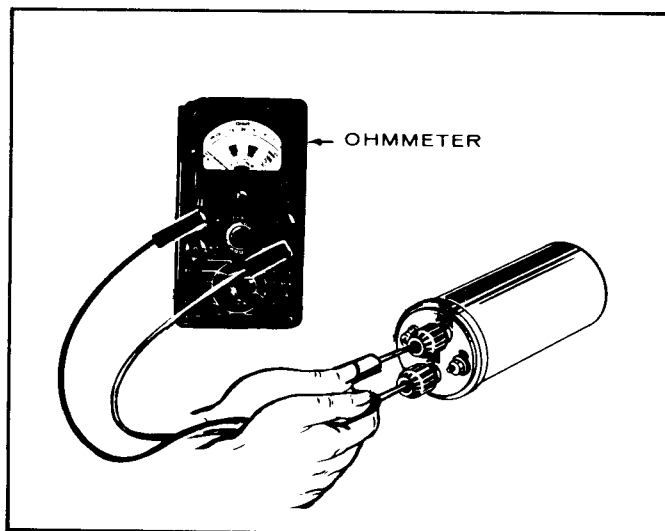

FIGURE 37. TESTING COIL
3. Change resistance setting on ohmmeter. Place ohmmeter leads inside spark plug cable holes (Figure 37). Secondary resistance should read 14,000 ( $\pm 10\%$ ) ohms.